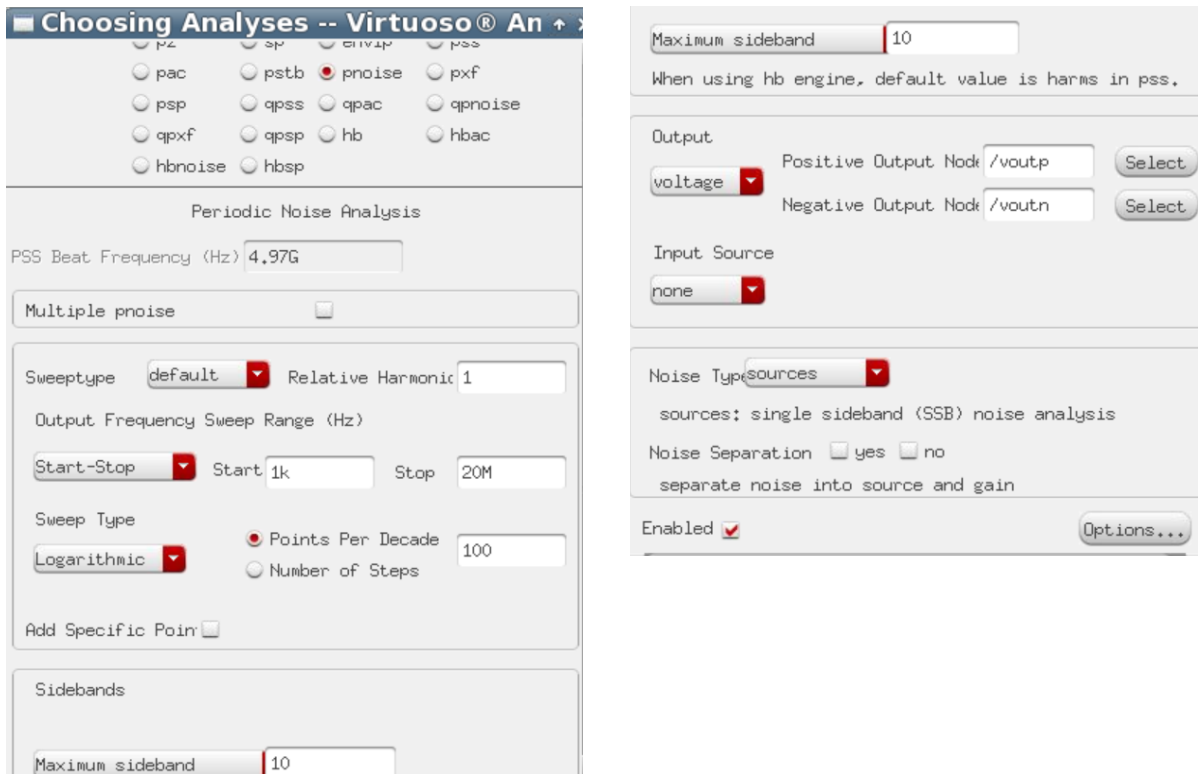

Fig. 10: Pnoise setup for plotting the phase noise
- 4) To plot the phase noise, pss should be setup first and then pnoise. Setup noise analysis as shown in figure 10. Note that in this setup, pnoise is measured for a fixed vcont and V_{dd} value. (No sweeping is set in the pss).
As shown in figure 10, in the pnoise setup, enter “1” for relative harmonic, as you want to measure the phase noise around the first harmonic of the output signal (which is around 4.97GHz). For the “output frequency sweep range”, enter the “relative frequency” start and stop points. These are the frequencies you are interested in measuring the phase noise at, relative to the center frequency. In the “output” section, make sure to choose “voltage”, and define the voutp and voutn as positive and negative output nodes. For the “input”, select “none”, as you have no input to the circuit. For noise type, select “sources”. Select enable and click ok. Run the simulation, and after the simulation is performed, go to results→direct plot→main form. Select pnoise as in figure 11, and under “function”, select “phase noise”. Plot the phase noise and measure the spot phase noise for 10kHz and 1MHz offsets, as shown in figure 12.